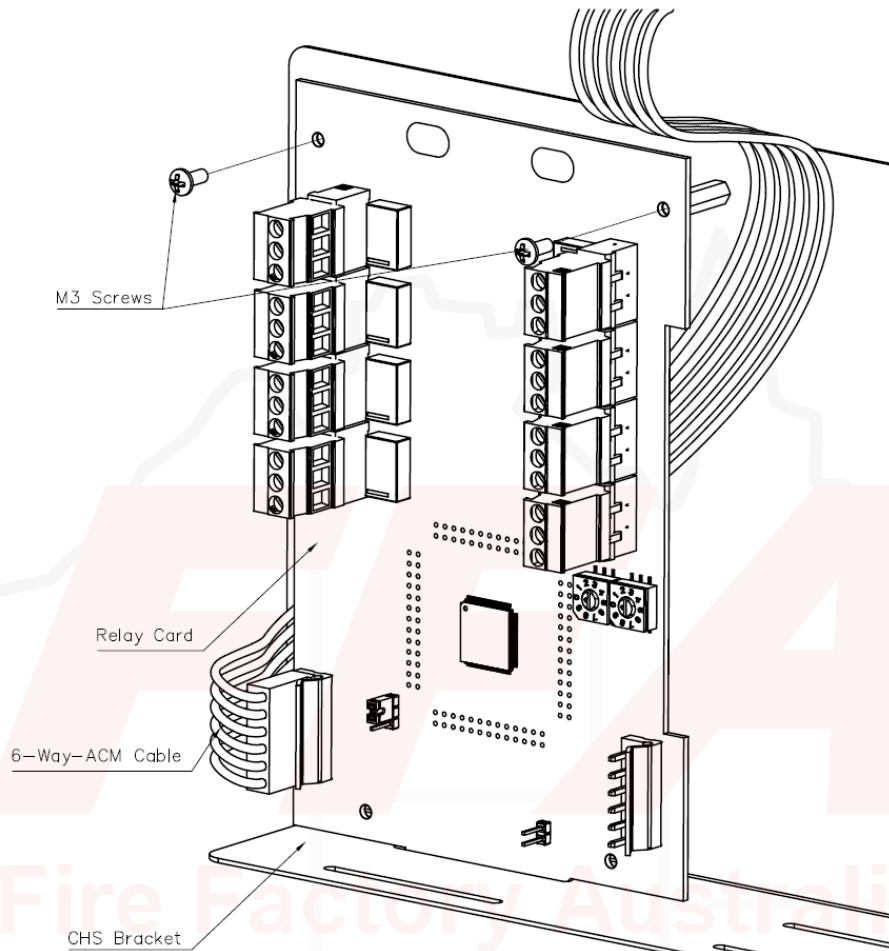

Figure 2-2 – Securing ACM-8RA
5. Secure the ACM-8RA to the CHS bracket using screws (**#GEN-01-001**) (Figure 2-2 – Securing ACM-8RA).
6. To connect the ACM-8RA to the ACM socket the ACM cable (**#CA-01-020**) we recommend that the ACM cable is passed behind the Relay Card and connected to the ACM header on the left hand side, as shown in Figure 2-2 – Securing ACM-8RA .